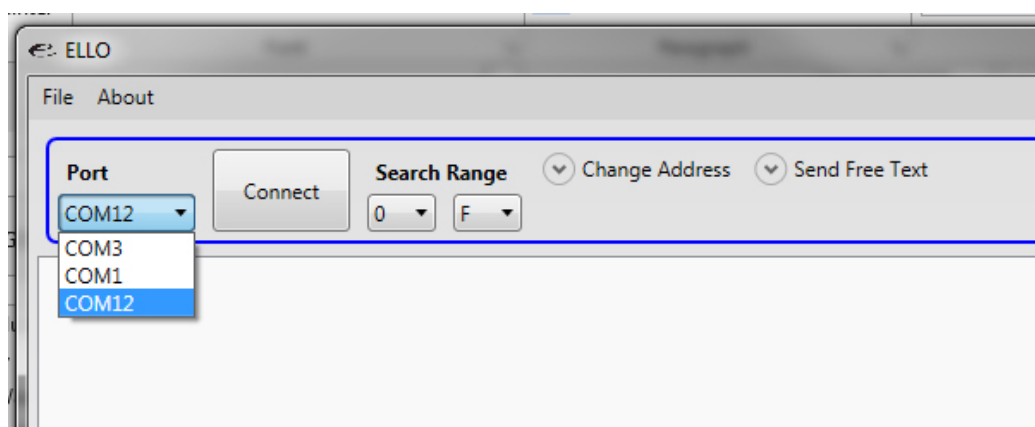

Figure 6 COM port Drop Down Menu
6. In the top left of the GUI panel displayed, select the COM port to which the device is connected (see *Figure 6*, and click 'Connect'. The software will search the comms bus and enumerate the device.